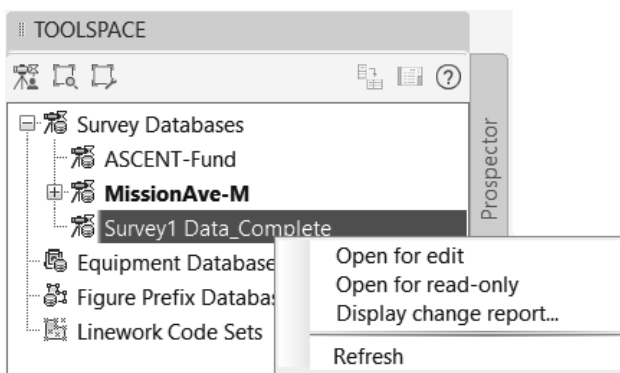

Figure 2–68
2. Select the survey database that you want to open, right-click, and select **Open for edit** or **Open for read-only**, depending on your requirements, as shown in Figure 2–68. Double-clicking on a Survey Database will open it as read-only.